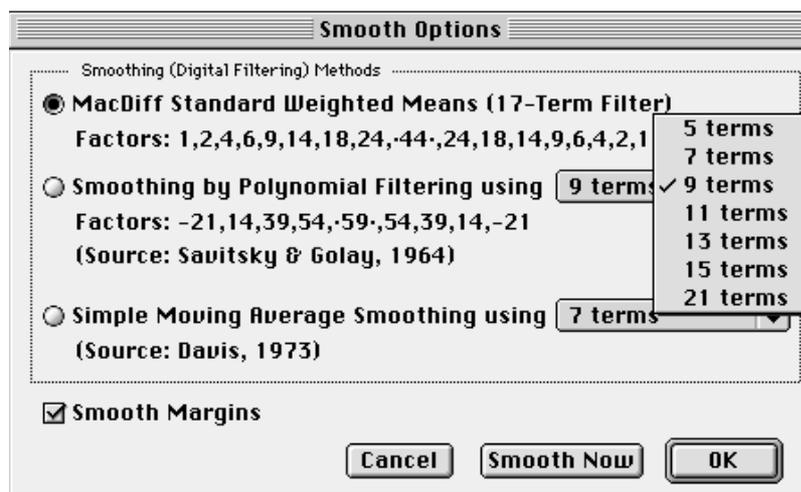

Fig. 26. Smooth Options dialog
**Smooth Options...** will open the dialogue shown in Fig. 26. This gives the option between three types of smoothing algorithms. First, there is the 17-term filter based on weighted means available in all previous versions of MacDiff. This algorithm multiplies 8 values before and after each measuring point with a Gauss constant (see factors) and adds them up. This smoothing routine will not shift the diffractogramme, but will cause a slight increase in FWHM.